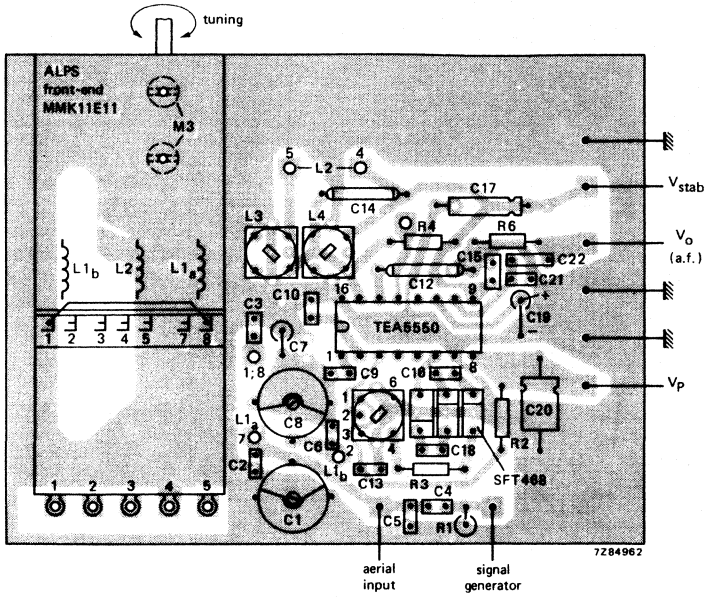

Fig. 8 Printed-circuit board component side, showing component layout. For circuit diagram see Fig. 7.
Fig. 7 Typical application circuit diagram for a double-tuned AM channel in car radio receivers using the TEA5550; S is AM/FM switch; for printed-circuit board see Figs 8 and 9.
- Coil data: L1a, L1b, L2 = tuning coils, ALPS unit MIMK IIEIII (for coil connections see Fig. 8)